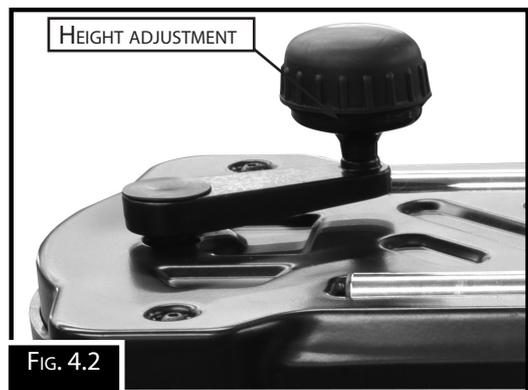

FIG. 4.2
**Height Adjustment Handle:** The thicknesser depth of cut is controlled by using the elevation crank on top of the machine. Rotating the crank clockwise raises the cutterhead. (Fig. 4.2)